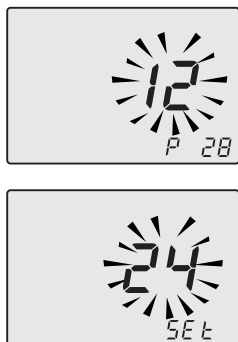

Fig. 9.4
- Use key 11 or 12 to modify the value of parameter 28 from **00** months to **48** months. The value **99**, which disables the maintenance request, is permitted. The writing **P28 - Set** alternates on the display (Fig. 9.4).